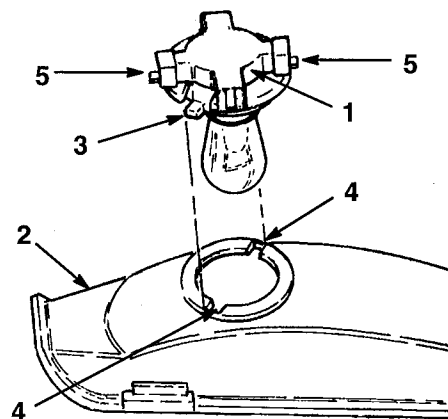

Figure 16
3. Rotate the bulb holder 1/4 turn counterclockwise and remove it from the reflector (Fig. 16).
2. The bulb holder has two tabs (Fig. 16). Align the tabs with the slots in the reflector, insert the bulb holder into the reflector and rotate it 1/4 turn clockwise until it stops.